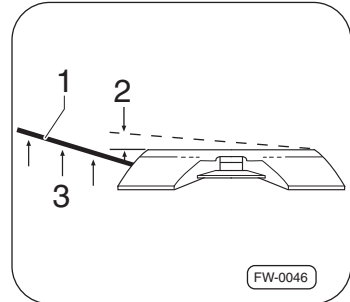

Fig. 22 · Check the clearance of the bearing insert
1. Fit a lever bar ⇒ Fig. 22, –item 1– between the base of the bearing bracket and the lower edge of the fifth wheel plate.
2. Lift lever bar –item 1–, according to –item 3–.
3. Measure the distance between the base of the bearing bracket and the lower edge of the fifth wheel plate close to the bearing pin in a non-raised and raised position –item 3–. If the measurement of the vertical play is above 9.5 mm, the bearing insert must be checked ⇒ Fig. 22.